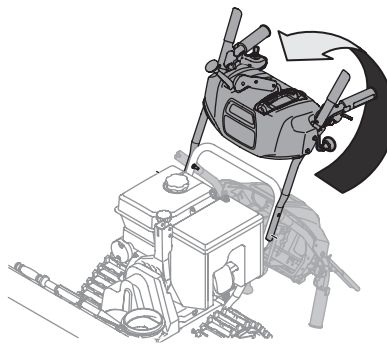

Figure 2-3
5. Pivot handle upward and align the lower handle. See Figure 2-3. Remove and discard any rubber bands, if present. They are for packaging purposes only.